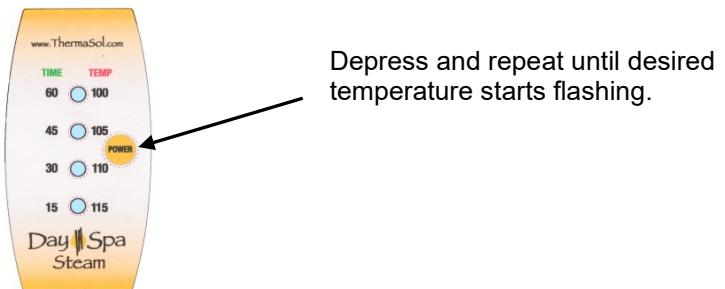

Figure 9
- 3. Changing Session Temperature.** After the time has been selected, the red 100° LED will automatically start flashing. If this is the desired temperature, wait 4 seconds and that temperature will be accepted by the control and the generator will start. If a different temperature is desired, momentarily press the "Control Button". Repeat until the red LED associated with your desired temperature starts flashing. Once the desired temperature is flashing, wait 4 seconds and that temperature will be accepted by the control and the steam will start. (**Figure 9**)